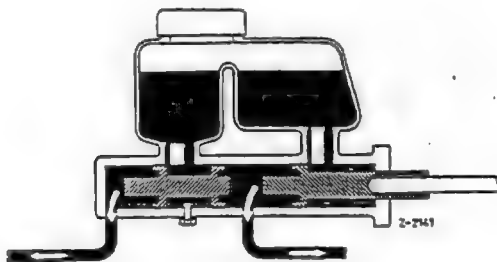

Fig. 42-3a/8
At first the piston (3a) moves forward alone until the pressure of the weaker pressure spring (17a) is equal to the initial tension of the pressure spring (21a) and also the friction resistance of the cups. After that the two pistons move together. Pressure for the brake circuits does not build up until the intermediate piston (20a) has passed beyond the compensating port (C) (Fig. 42-3a/6).